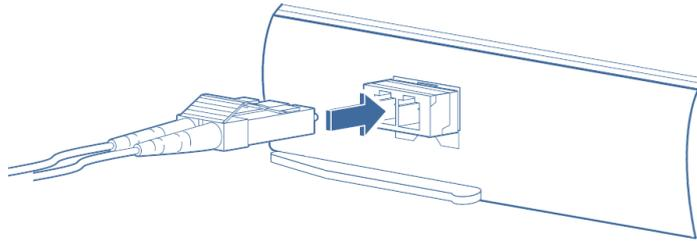

Figure 7 : Connecting the cable to SFP+ Module
4. Insert the fiber cable into the module, as shown in Figure 7.